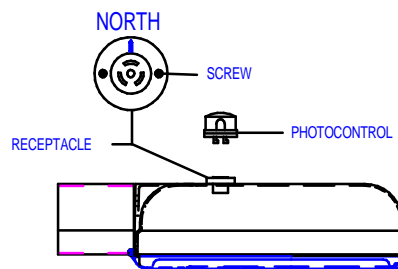

FIGURE 8
M. PHOTOCONTROL SWITCH (FIGURE 8)